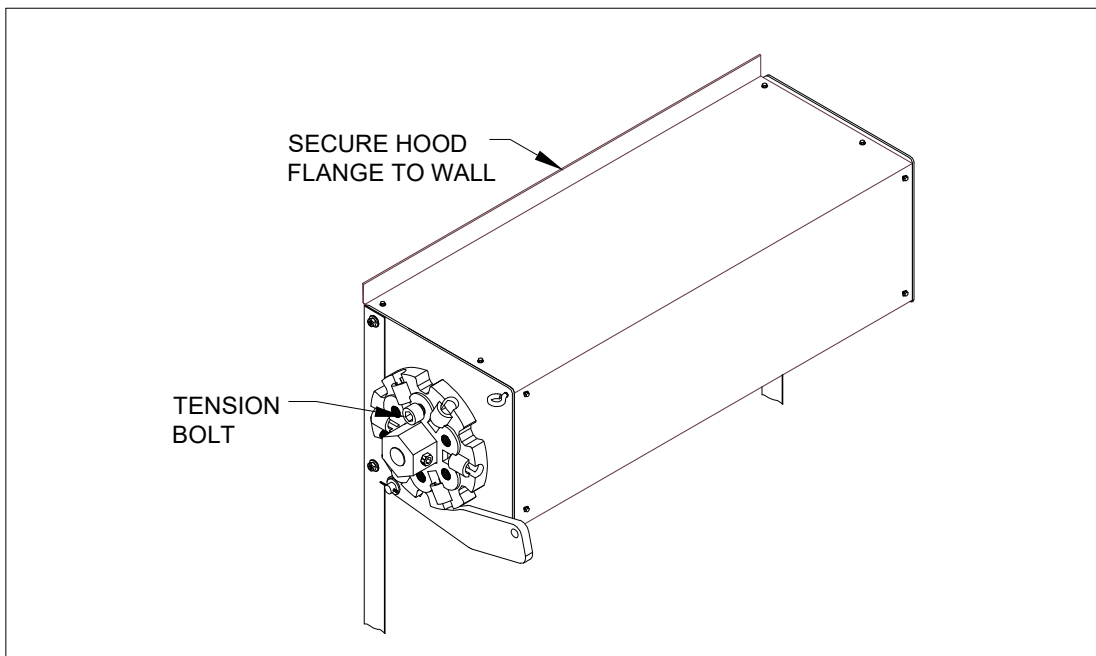

FIGURE 17
- c. Set spacing between headplates adequate for later hood installation as shown in Figure 17.
- b. Attach hood to headplate hood bands with self-drilling fasteners provided and approved by ASTA America. Use two fasteners per flat hood surface as shown in Figure 17.